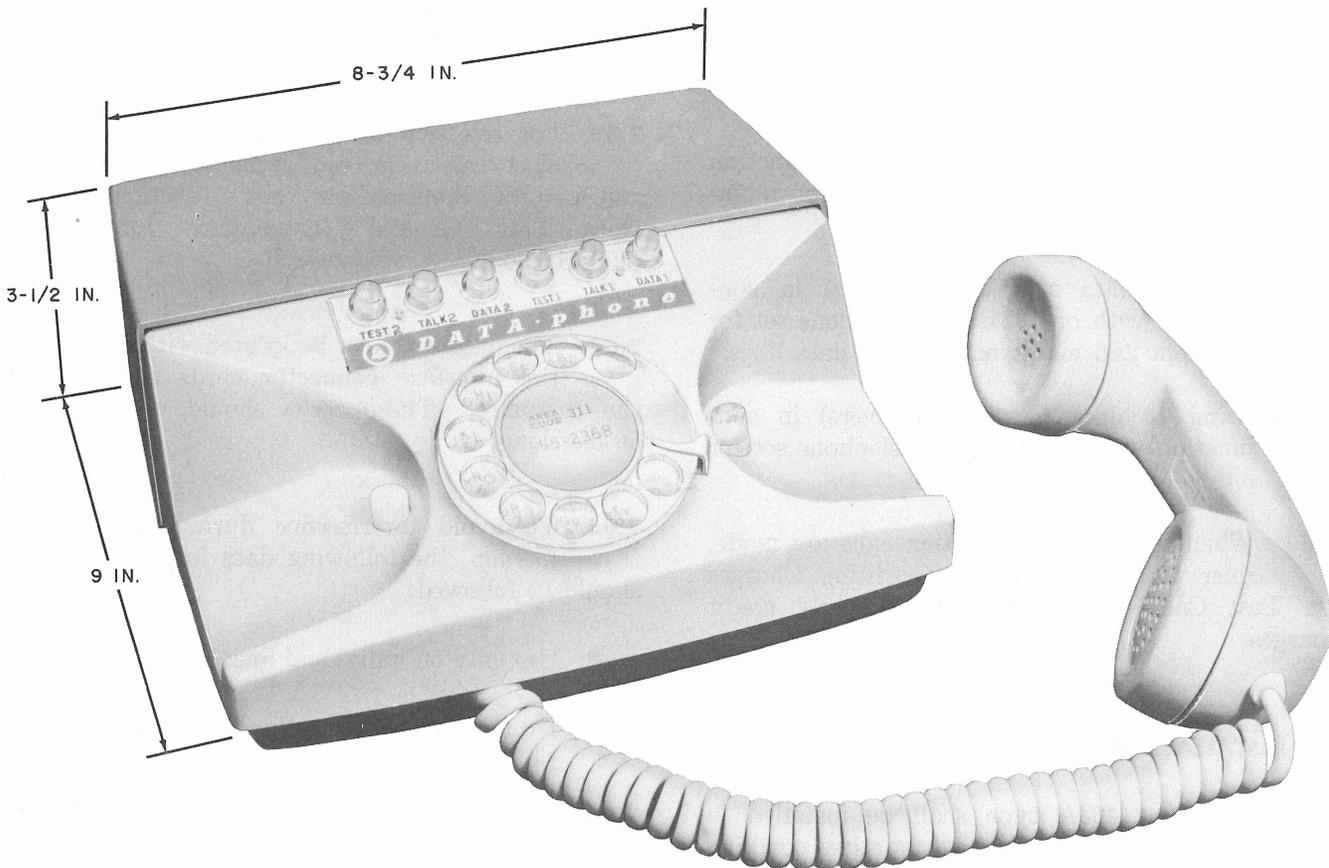

Fig. 1 — Data Auxiliary Set 804C
3.01 A typical individual Data Set 403A type installation consists of a Data Set 403A type, a Data Auxiliary Set 804C (Fig. 1), which provides human interface and a 1044 type connecting block for connecting the station to the telephone line. The data set and data auxiliary set may be shelf mounted or placed on desk or table.